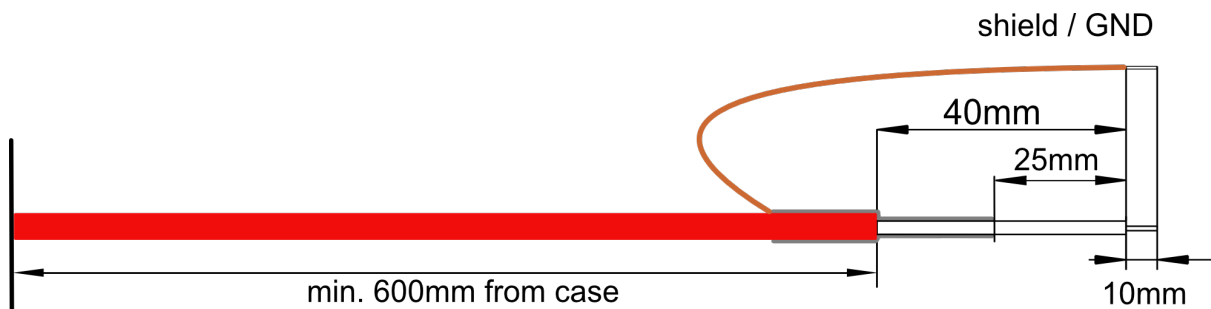

Figure 9: HV cable connection
Notes: 1) – Specifications for stability, ripple and noise are guaranteed in the range $2\% \cdot V_{nom} < V_{out} \leq V_{nom}$; $I_{set} \geq 4\% I_{nom}$ for DPS mini 2) – the HV cable has a length of 600mm as standard, see Figure 9: HV cable connection
1) – the HV cable has a length of 600mm as standard, see Figure 9: HV cable connection